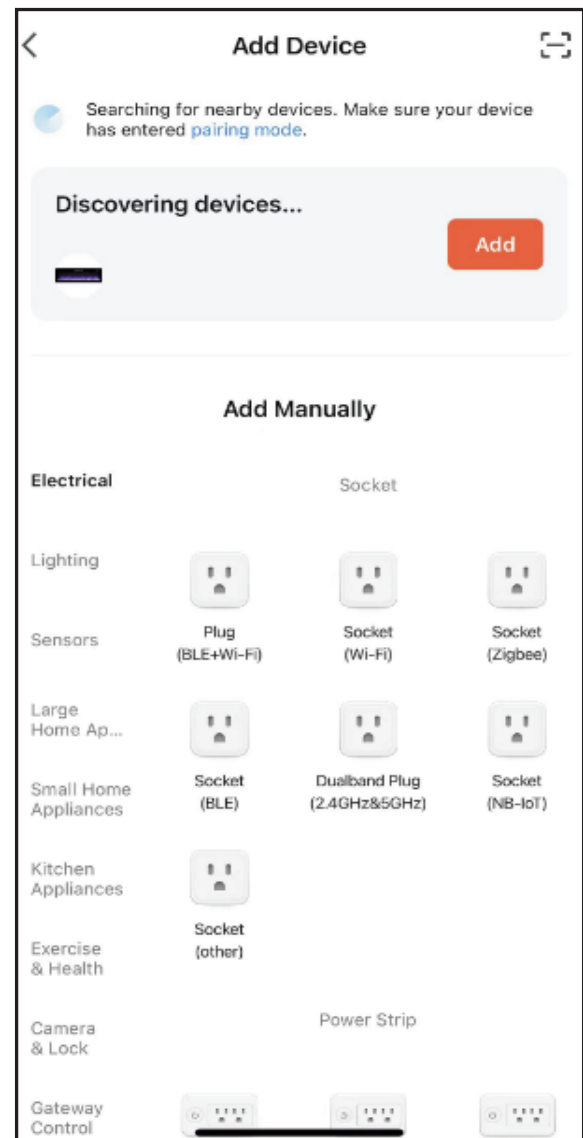
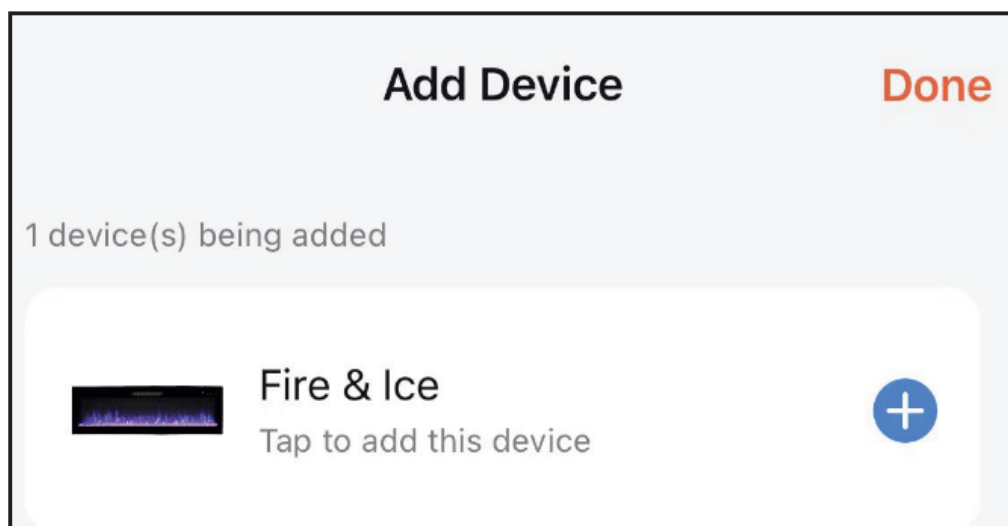
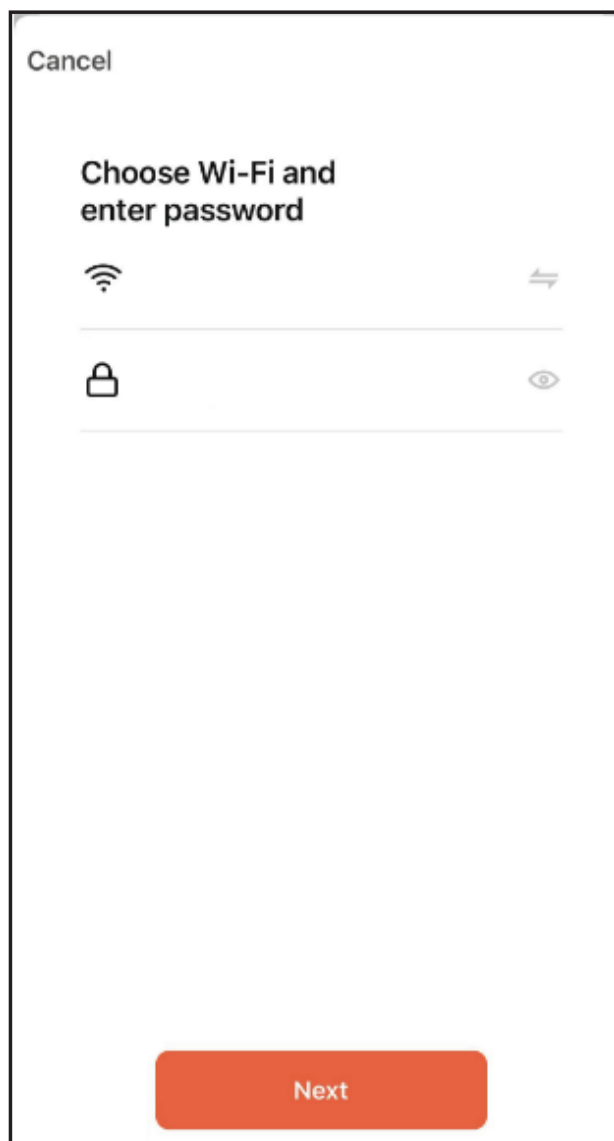
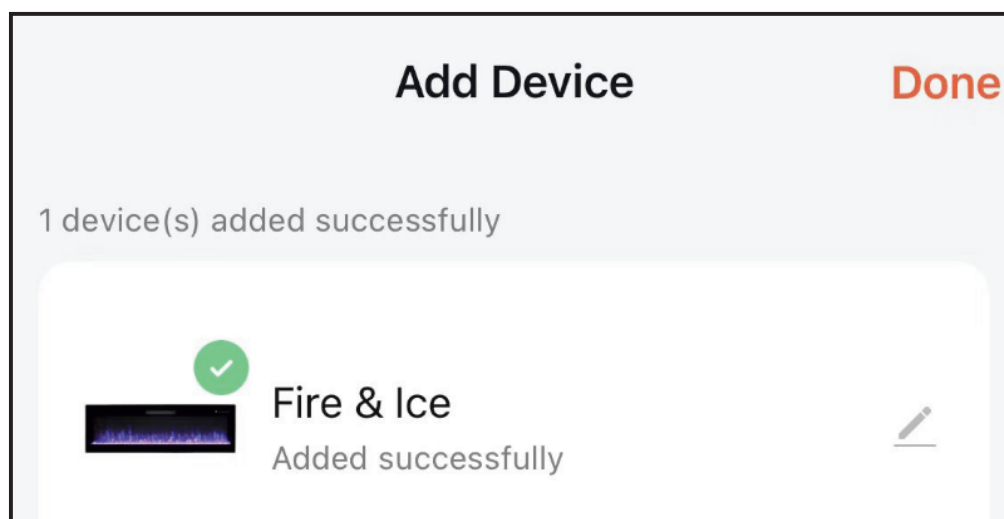

Figure 2
Figure 3
Figure 4
Figure 5
2. When you log in, the APP will scan and add the fireplace to APP(Figure.2) automatically. Touch “Add” to enter in Figure 3. Touch “+” to set your Wi-fi account and password(Figure 4). Touch “Next” to enter Figure 5. Touch “Done” to finish Wi-fi setting.